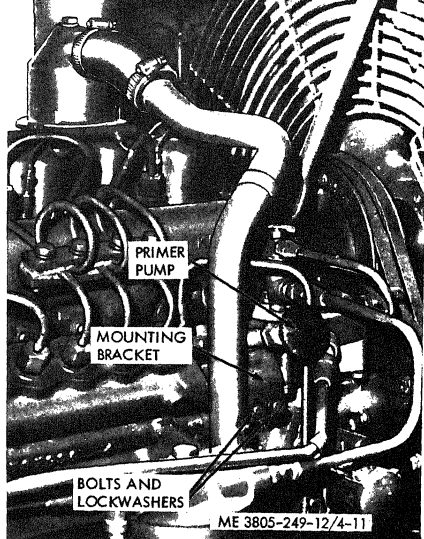

Figure 4-11. Fuel primer pump.
a. *Removal.* Refer to figure 4-11.
(1) Disconnect fuel inlet and outlet lines. Cap or plug openings.